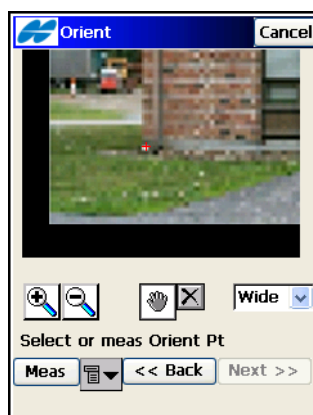

Figure 11-34. Select Orientation Point – Wide View
- The drop-down list in the bottom-left corner of the screen (next to the **Meas** button) contains two options to view the image (Figure 11-34 on page 11-36):